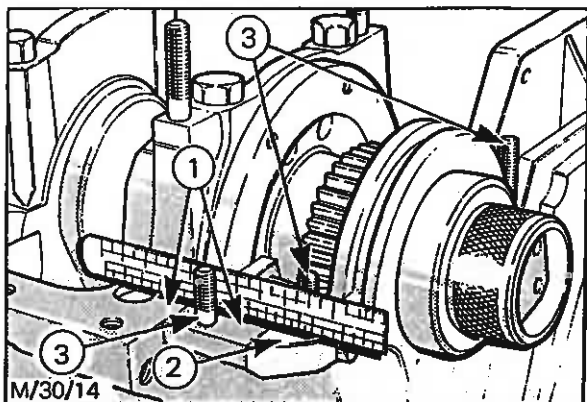

Fig. 53 - Timing Gear Housing and Cover Alignment (Left Hand Side on 2728T Engines)
30. On 2728T Intercooled engines, check the alignment of the lower face of the timing gear housing in relation to the lower face of the crankcase. Looking from the front of the engine in the inverted position, the faces on the left side must be flush, with the right side as near flush as possible or to within a maximum of 0,18 mm (0,007 in) misalignment either above or below the face - refer to Figs. 53 and 54.
Check that the three studs are secure - see Fig. 53. if new studs are fitted apply the specified sealant to the threads when screwing them into position.